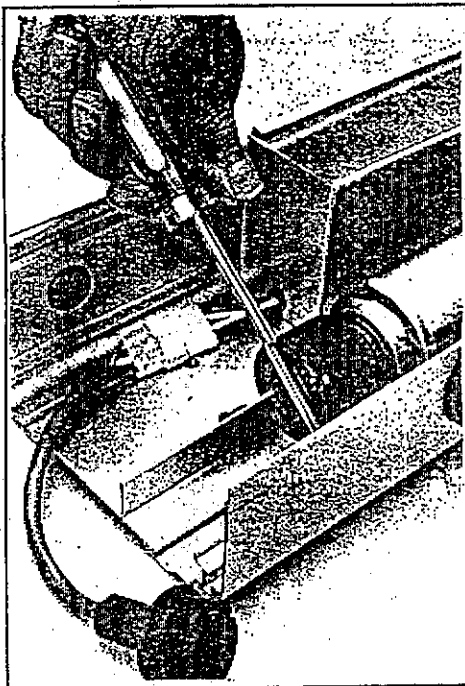

Figure 3: Loosening/Tightening of the Sleeve Bolt.
Step 4: Using a screwdriver, unscrew the Sleeve Bolt (illustration in Figure 3) and carefully extract the Lamp/Sleeve and attached O-ring from the reactor chamber.
Step 7: Align the Lamp/Sleeve into Sleeve Bolt locking position, then insert into the reactor chamber. Thread the Sleeve Bolt with fingers until secure, then tighten with the screwdriver (as illustrated in Figure 3). Do not over-tighten, the Sleeve Bolt should only be tightened an additional 1/4 to 3/8 turn after it begins to seat on the O-ring.